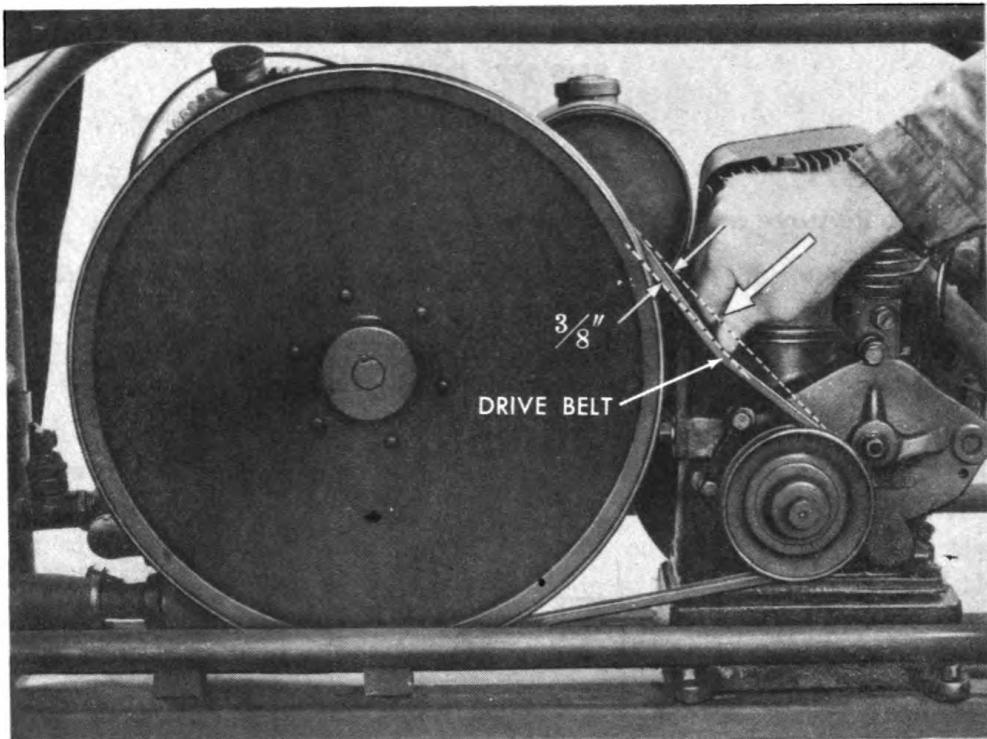

Figure 43—Drive Belt Adjustment
(1) Loosen four engine mounting bolts.
(2) Pull or pry engine away from pump until center of drive belt can be depressed a distance of $\frac{3}{8}$ inch, under moderate thumb pressure (figure 43).
(3) Tighten four engine mounting bolts securely.